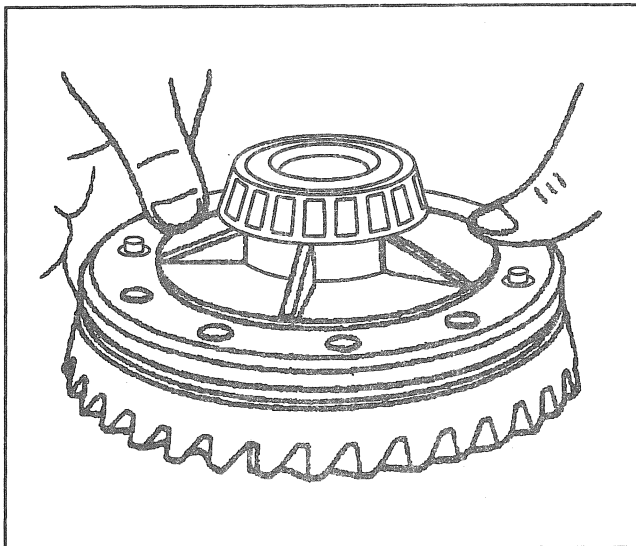

Figure 19—Aligning the Ring Gear Studs
5. Pinion thrust washers (30).
6. Ring gear (15) to the differential case (27).
- B. Place the ring gear onto the case, and align the holes in the case with the bolts (Figure 19).